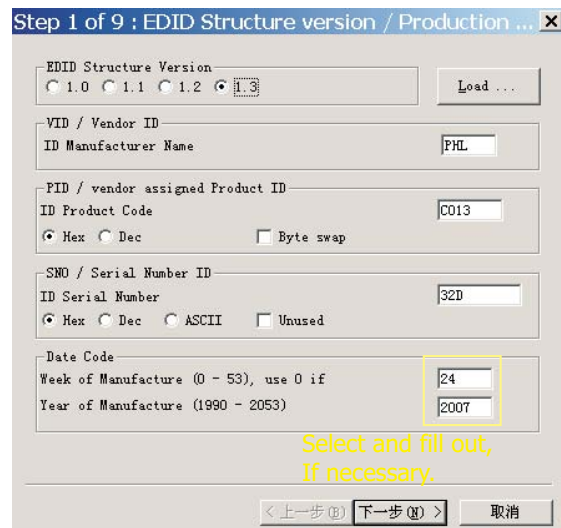

Fig. 14
- Click  (new function) icon from the tool bar, bring up Step 1 of 9 as shown in Fig. 14 . EDID46 DDC application provides the function selection and